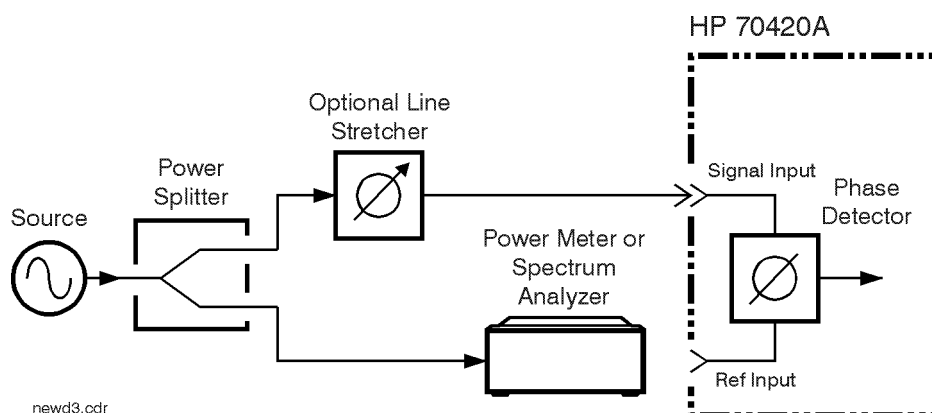

Figure 8-11 Measuring Power from Splitter
- 1 Connect circuit as per Figure 8-11, and tighten all connections.